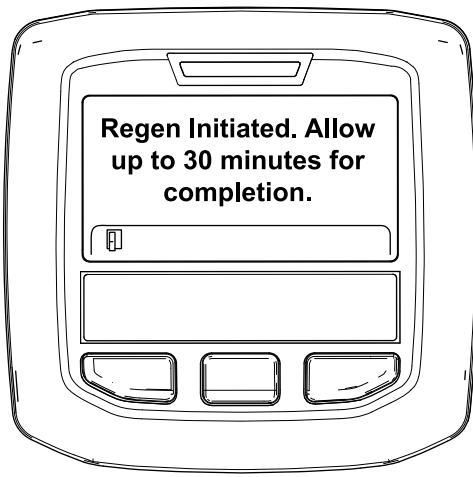

Figure 36
- If the regeneration is allowed, the "Regen Initiated. Allow up to 30 minutes for completion" message displays in the InfoCenter, wait for the machine to complete the parked regeneration process (Figure 36).